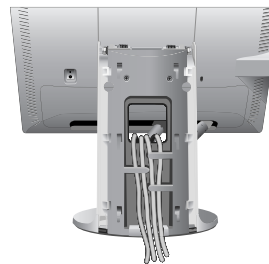

Figure C.5
7. Place all cables into the hooks (**Figure C.5**).